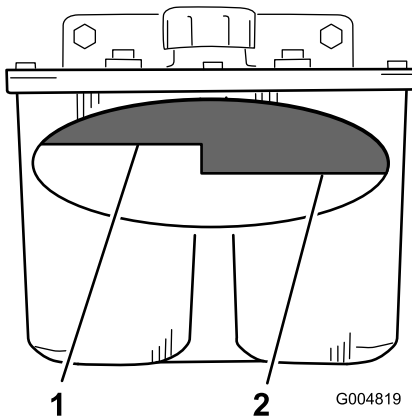

Figure 86
- Clean the area around the filler neck of the hydraulic tank (Figure 86).
5. Remove the cap from the filler neck and look inside to check if there is fluid in the reservoir (Figure 86).
Note: The fluid level should be to the top of the hot level of the baffle, when the fluid is hot (Figure 86).